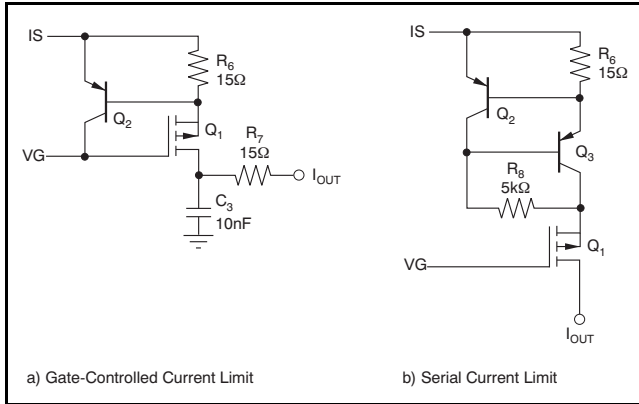

Figure 37. External Current Limit Circuits
- Corrected errors in Figure 37 14